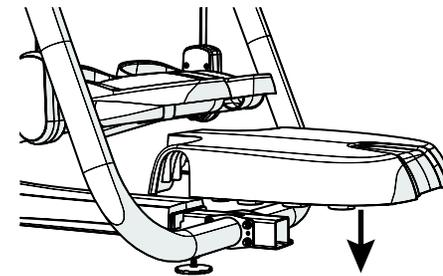

Figure 22
6. Align the rear pedestal over the back frame tube and the side arm covers, then press the pedestal into place (see Figure 22).